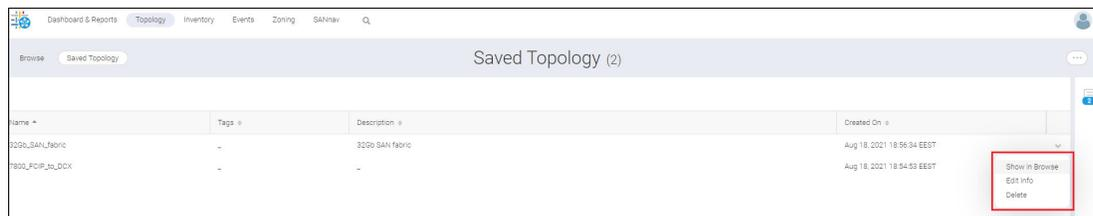

Figure 5-106 Saved topology
2. Locate the topology that you want to view and select **Show in Browse** from the action menu in the rightmost column (Figure 5-106).